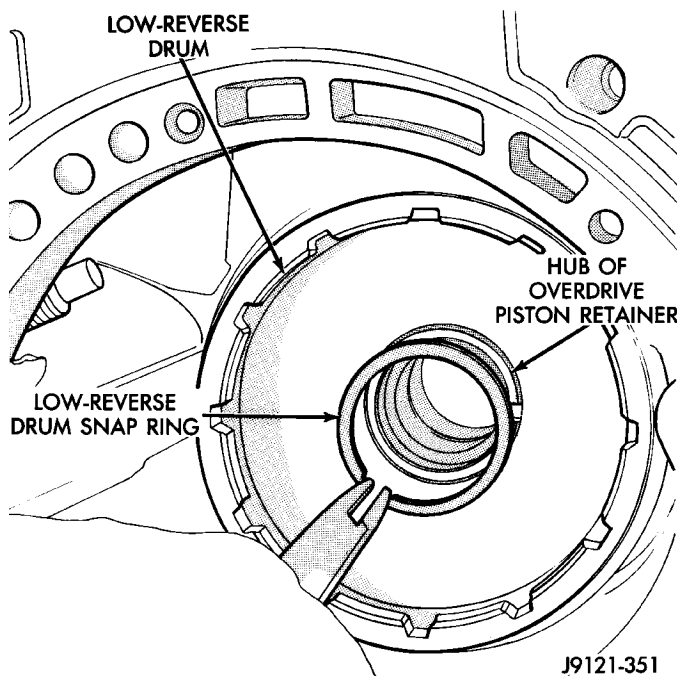

Fig. 112 Installing Low-Reverse Drum Retaining Snap Ring
(7) Install snap ring that secures low-reverse drum to hub of overdrive piston retainer (Fig. 112).